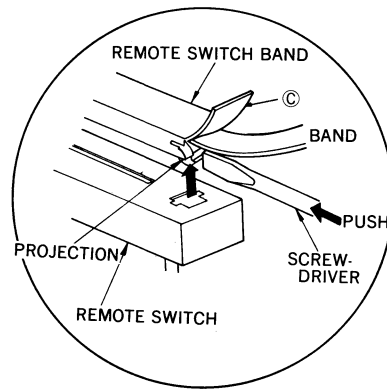

Fig. 2
1. Use a small screwdriver to push the projection of the remote-switch bands in the direction shown by the arrow in figure 2, and remove them from the remote switch.
Note: When removing the remote-switch bands, be careful not to pull the bands nor to hold them as shown in © of figure 2, because to do so may result in damage. Also be careful not to bend or twist the bands excessively.